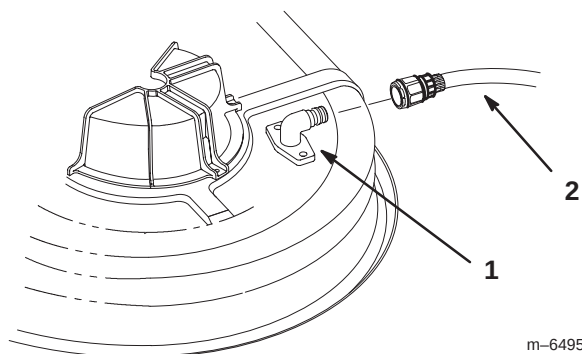

Figure 49
- Attach the hose coupling to the end of the mower washout fitting, and turn the water on high (Fig. 49).